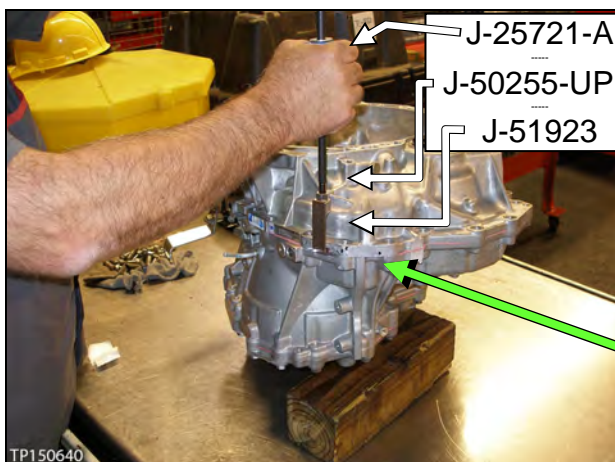
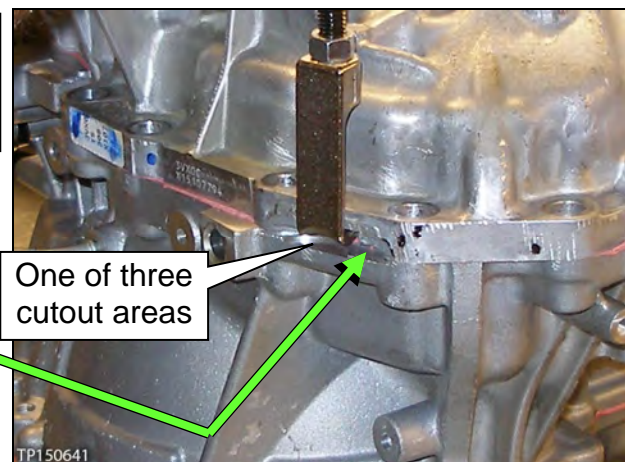

Figure 2C
Figure 3C
- Use Slide Hammer J-25721-A and Slide Hammer Bolt J-50255-UPD with J-Hook J-51923 at the cut out areas similar to the one shown in Figure 2C and Figure 3C.